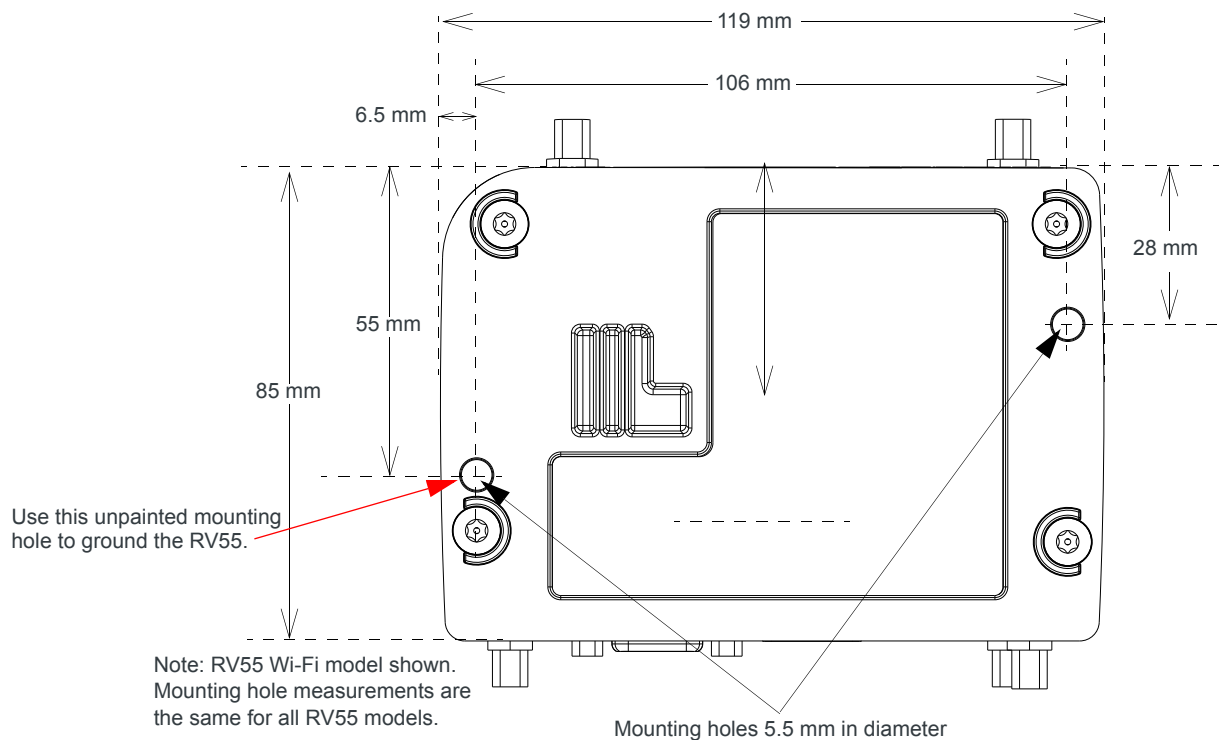

Figure 2-2: RV55 Router Mounting Hole Locations and Dimensions
- Connect one end of a short 18 AWG or larger gauge wire to the unpainted upper left mounting hole (see Figure 2-2) and connect the other end to the system ground reference or (if mounted in a vehicle) the vehicle chassis.